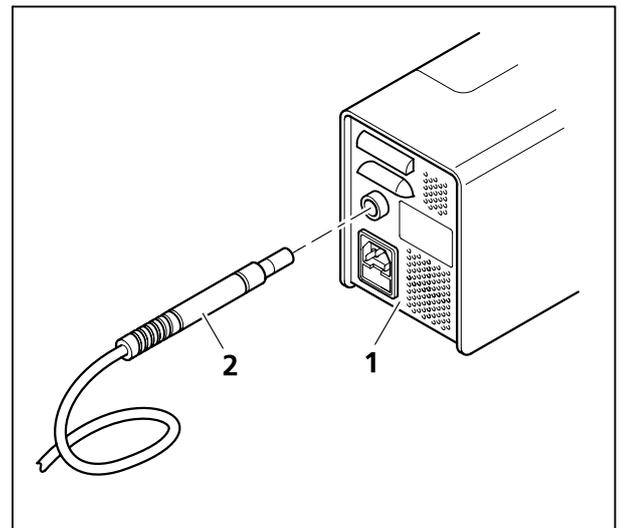

Fig. 24 Connecting the optical fiber to the X-Cite illuminator
- Plug the other end of the optical fiber (Fig. 24/2) as far as it will go into the X-Cite illuminator (Fig. 24/1).